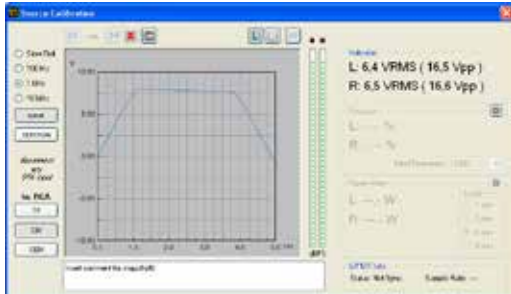
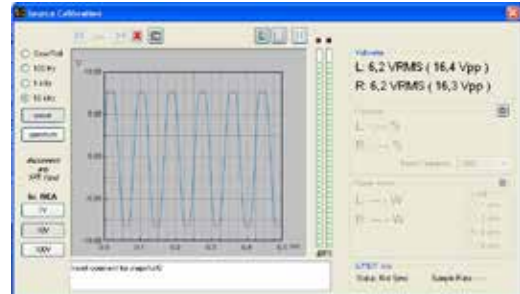
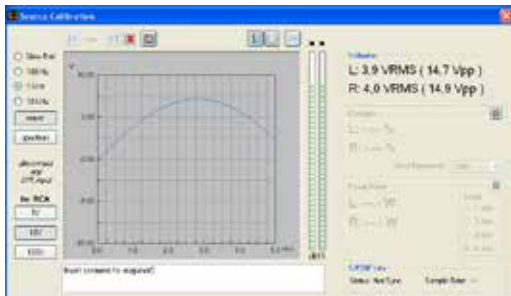
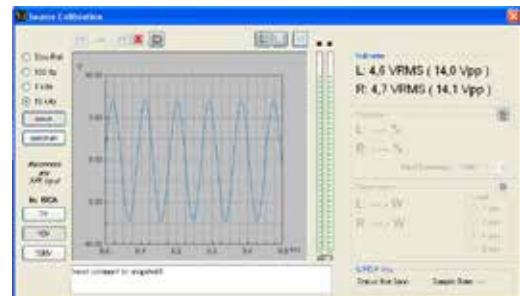

Fig. 1
Fig. 2
Fig. 3
Fig. 4
- If the display shows saturated waveforms (clipping) as shown below (fig 1, fig. 2) decrease the source volume so that the signal does not show any saturation (fig. 3, fig. 4). Select the Right channel and repeat the measurement.